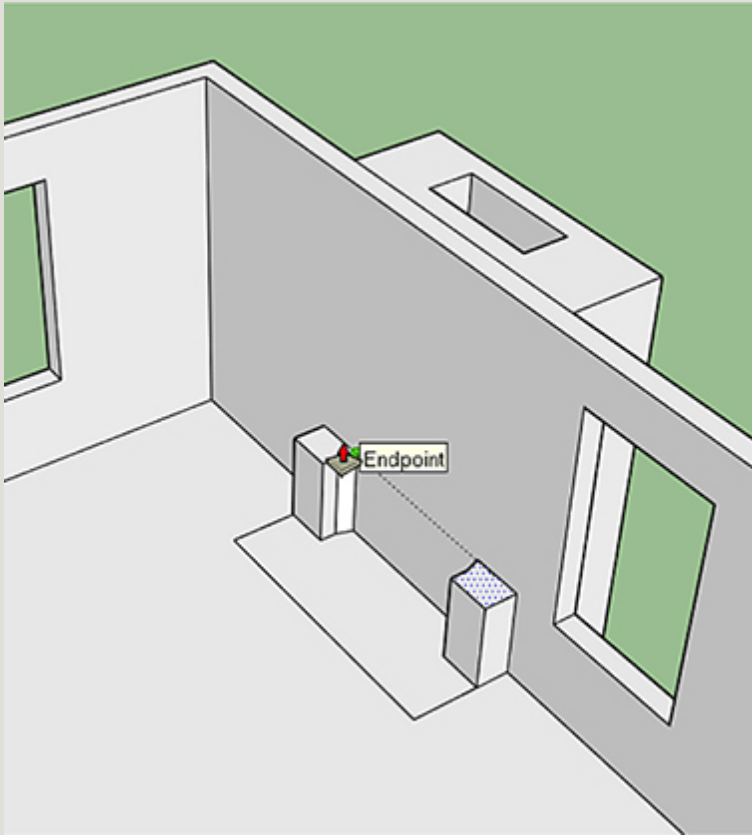

Figure 4-81 Model the fireplace. Here one side is being inference matched to the other.
7. Model the fireplace (Figure 4-81). Do this by pushing/pulling its outline up. Or import and scale one from the Warehouse.